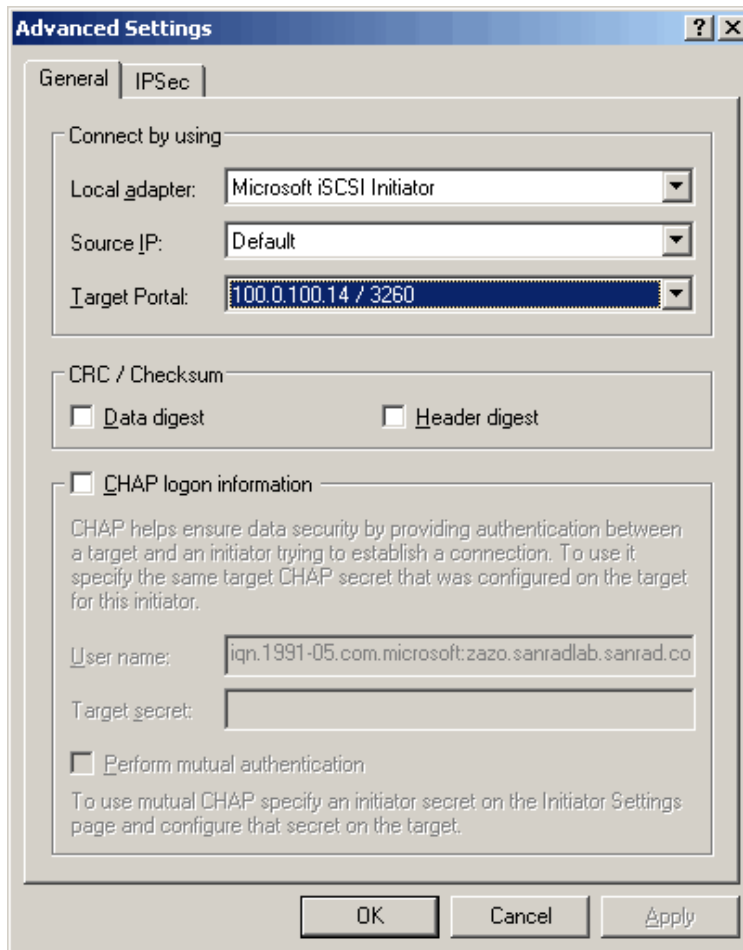

Figure 13. Configure Multi Connections - Advance settings Window
In the Advanced setting window (Figure 13):
5. Click OK (Figure 13).